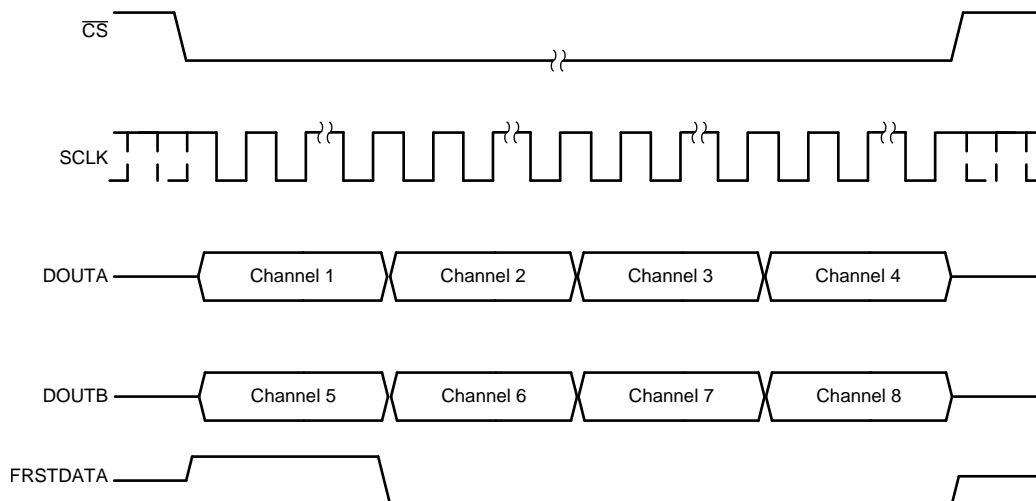

Figure 70. Data Read Back in the Serial Interface Using Both DOUTA and DOUTB Timing Diagram
- In order to minimize the time for the data read operation in serial mode, both DOUTA and DOUTB can be used to read data out of the device. In this case, the conversion results from the first set of channels (channels 1-4 for the ADS8588S) appear on DOUTA and the conversion results from the second set of channels (channels 5-8 for the ADS8588S) appear first on DOUTB. To read the data for all channels, provide a total of $16 \times 4 = 64$ SCLK cycles for the ADS8588S. This entire data frame can be created within a single \overline{CS} pulse or each group of 16 SCLK cycles can be individually framed by the \overline{CS} signal. Figure 70 shows an example timing diagram.